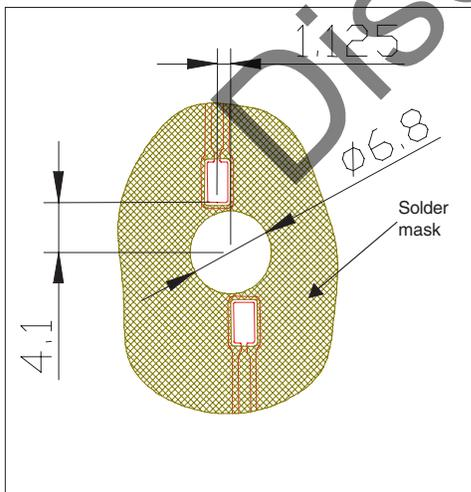

Figure 6: Solder Mask Protects Traces While Exposing Solder Pads and Slug Attach Areas for Array Assembly.
- Application of a solder mask layer protects the electrical traces during the hot bar soldering process (see figure 6).